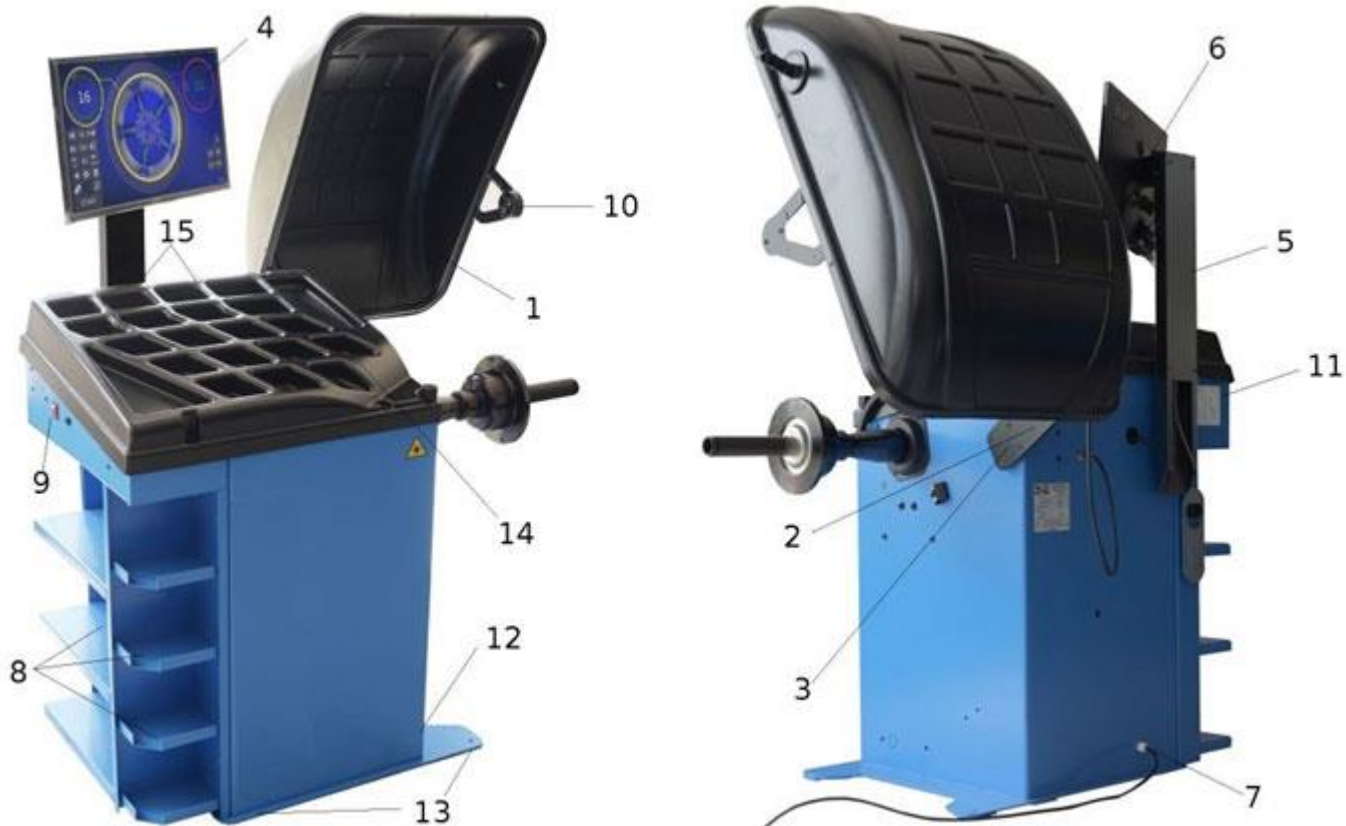

Fig. 1: Wheel balancer components
The description and the numbering of elements below are based on Figure 1.
The description and the numbering of elements below are based on figure 1. To mount the monitor on the balancer first screw the monitor bracket (5) to the machine housing using 2 screws with wide washers. Put the monitor tilt regulator (6) on the bracket and then screw the monitor (4) to it. Finally, connect the power cable, signal cable and USB cable (in case of a touch-screen monitor).